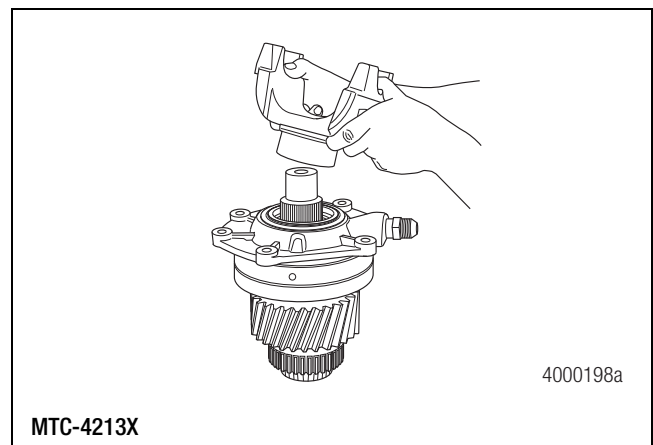

Figure 4.25
3. Use a yoke puller to remove the front input yoke. Figure 4.25.